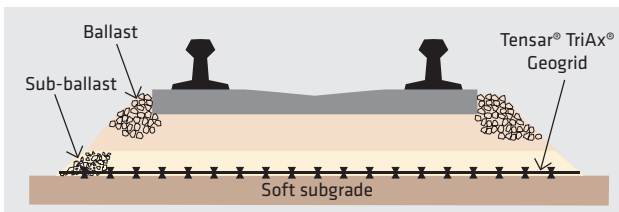

FIGURE 3a: Sub-ballast stabilization provides improved bearing capacity.
- ▶ Sub-ballast Stabilization – installed at the bottom of the sub-ballast, TriAx Geogrids help distribute imposed loads more efficiently over the underlying subgrade, leading to a reduction in the required sub-ballast layer thickness (Figure 3a).